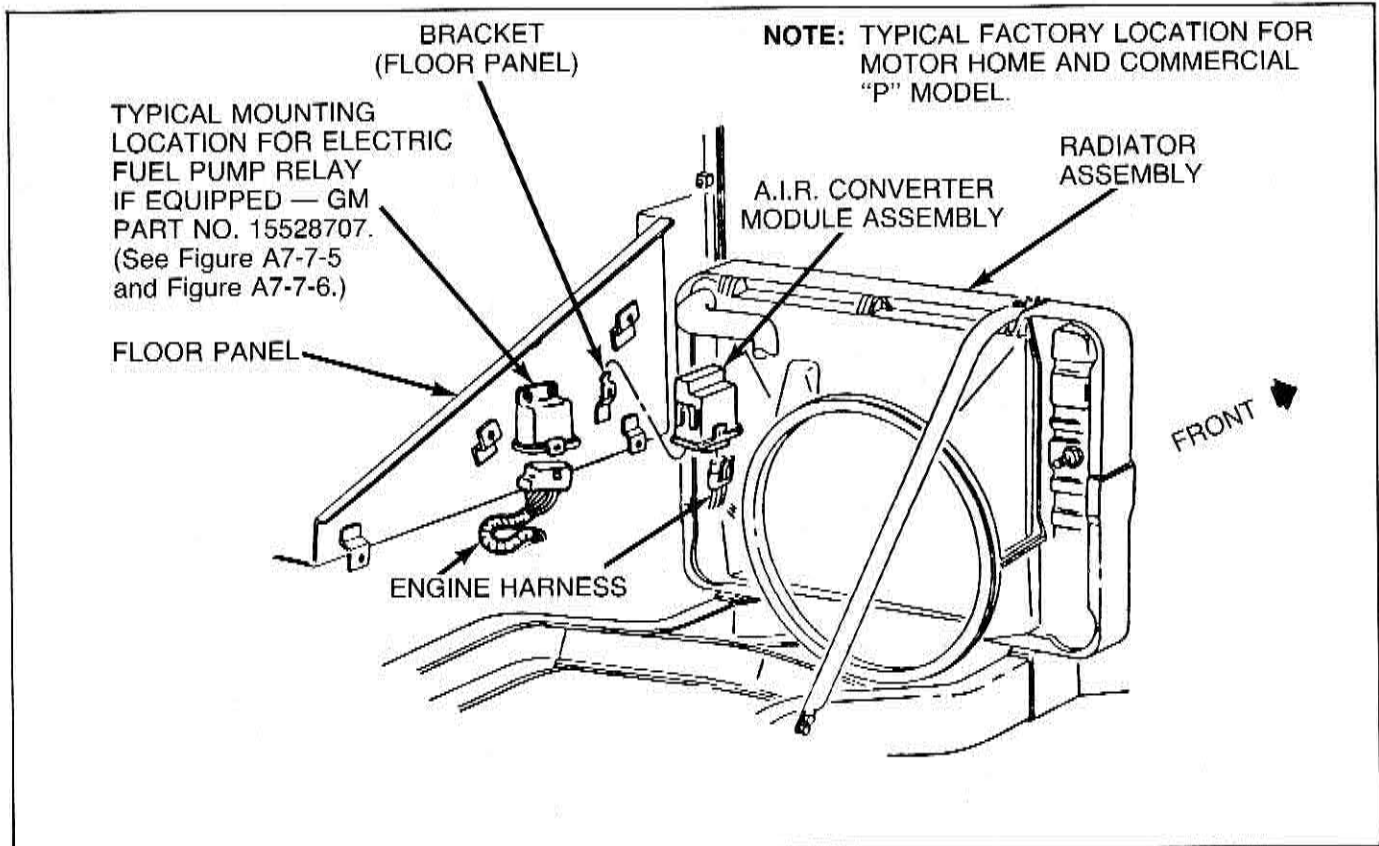

Figure A7-17-2 — A.I.R. Connector Module and Electric Fuel Pump Relay Locations
2. With ignition on, disconnect each solenoid connector and with a test light, check for a light across the terminals. (See Figure A7-17-2.)